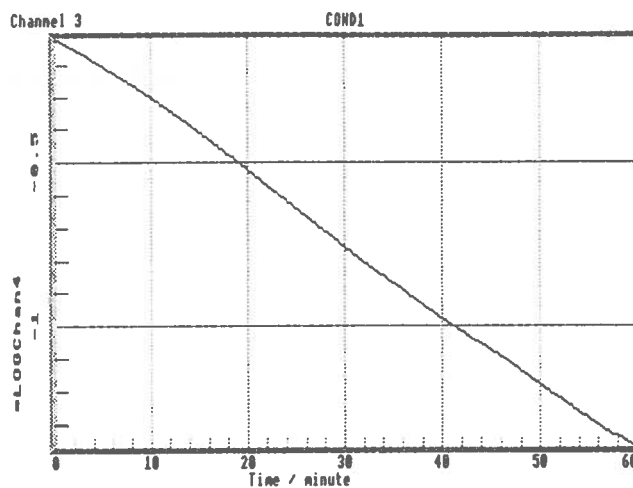

Fig.7  $\text{LOG}(V_{\infty} - V_t)$  vs.  $t$  . . .
5. derive  $\text{LOG}(V_\infty - V_t)$  and plot it vs. time (Fig.7)
where  $y$  is the variable assigned to channel 4. The resulting graph is shown as Fig.7. Once you become familiar with these techniques you can combine the last two steps with a single expression: